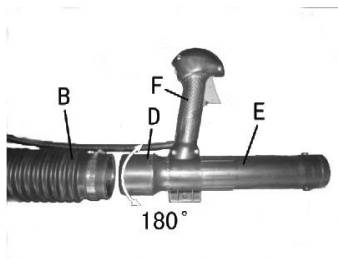

Fig.3
2. Connect the hose clamp (G) on the flex tube and the operating tube with each other.
3. Turn the rotary ring mark (D) so that it aligns with the throttle handle (F). Insert the operating tube (E) into the flex tube (B) (Fig.3) and then tighten securely with a hose clamp (G) (Fig.4).